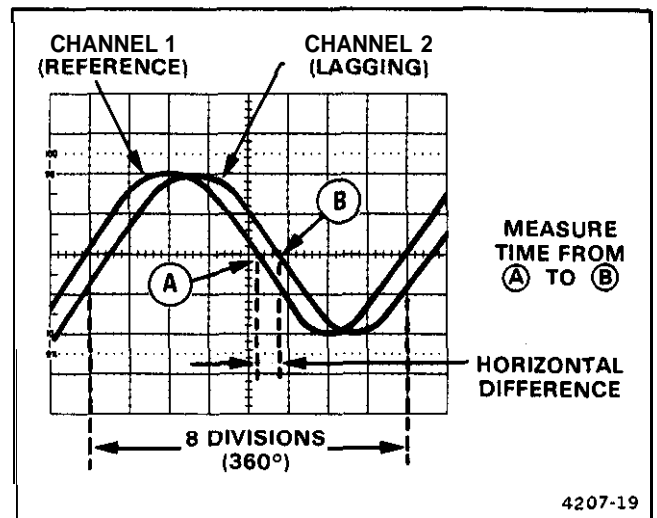
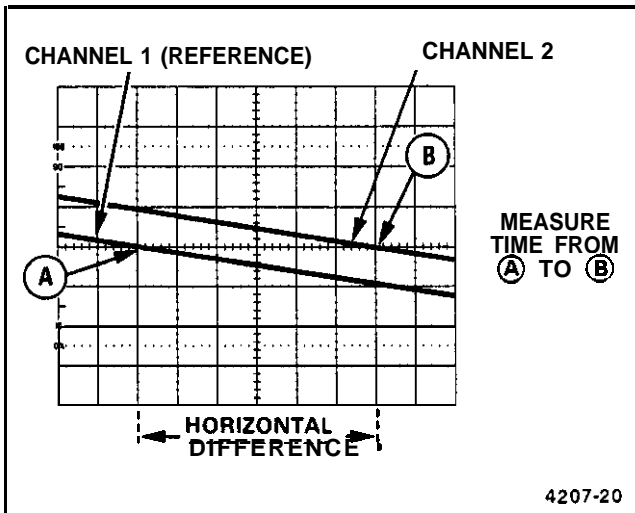

Figure 4-9. Phase difference.
Figure 4-10. High-resolution phase difference.
9. Position the displays and adjust the SEC/DIV Variable control so that one reference-signal cycle occupies exactly 8 horizontal graticule divisions at the 50% rise-time points (see Figure 4-9). Each division of the graticule now represents 45° of the cycle ($360^\circ \div 8$ divisions), and the horizontal graticule calibration can be stated as 45° per division.
EXAMPLE: The horizontal difference is 0.6 division with a graticule calibration of 45° per division as shown in Figure 4-9.
EXAMPLE: If the sweep speed were increased 10 times with the magnifier (X10 Magnifier out), the magnified horizontal graticule calibration would be 45° /division divided by 10 (or 4.5° /division). Figure 4.10 shows the same signals illustrated in Figure 4-9, but magnifying the displays results in a horizontal difference of 6 divisions between the two signals.